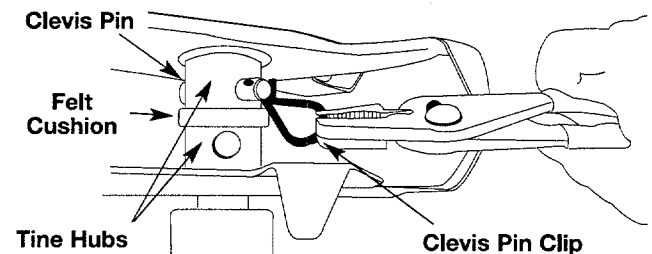

Figure 27
1. Put the On/Off Stop Control in the STOP (O) position and disconnect the spark plug wire.
2. Remove the clevis pin clips and clevis pins. See Figure 27.